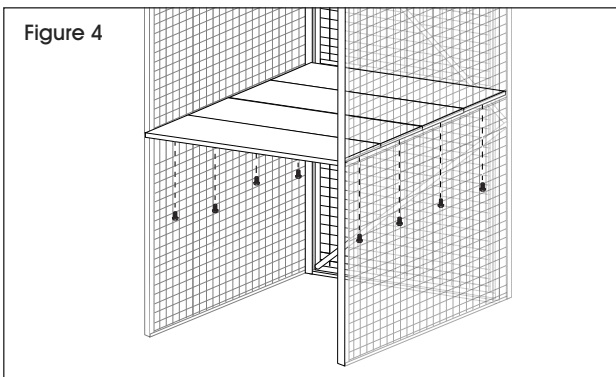

Figure 4
5. Place first piece of four-piece shelf on top of rails with flush side facing up. Bolt first piece to shelf rails using two short hex head bolts. Bolts will go through shelf rails and into threaded holes in shelves. Repeat for the next three shelf pieces. (See Figure 4)